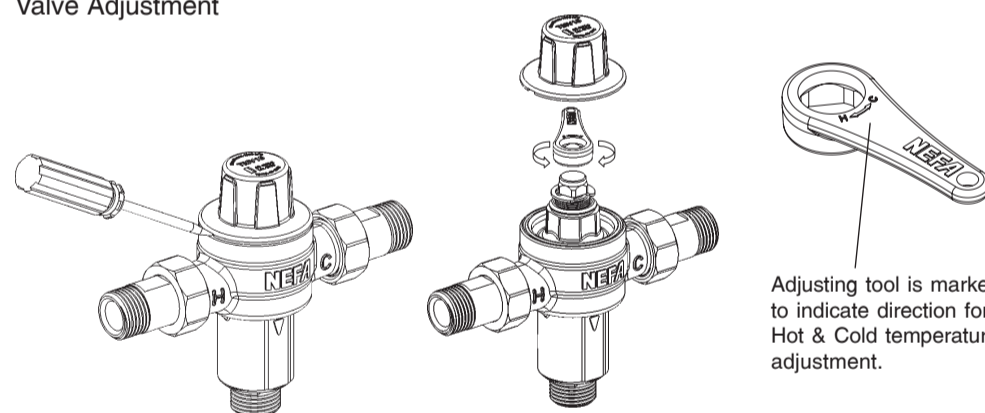

Fig. 3
- Using the adjusting tool supplied, simply rotate the spindle shown in (fig.3) in the direction (H) hot or (C) Cold as indicated on the tool until the required set temperature is achieved.